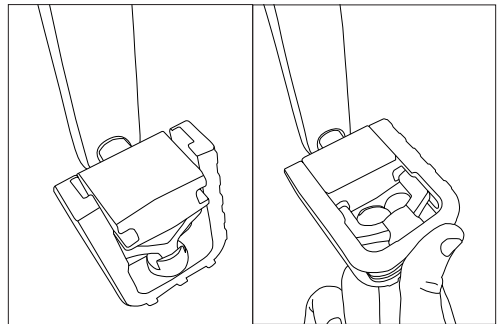

Fig. 46: Pivot folding pedals to riding position
1. Pivot the pedal body 90 degrees, so it is perpendicular to the crank arm. (Fig. 46)